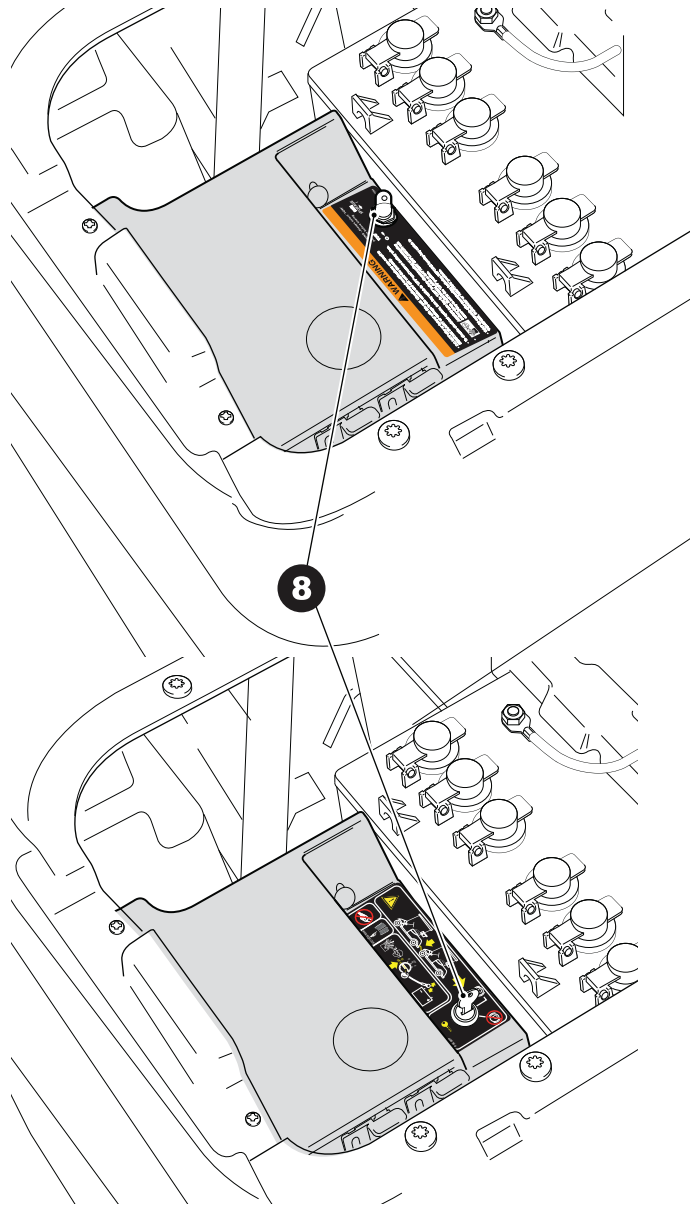

Fig. 9 Run/Tow Switch
The run/tow switch (8) is located under the seat on the passenger side of the vehicle (Ref. Fig. 9).